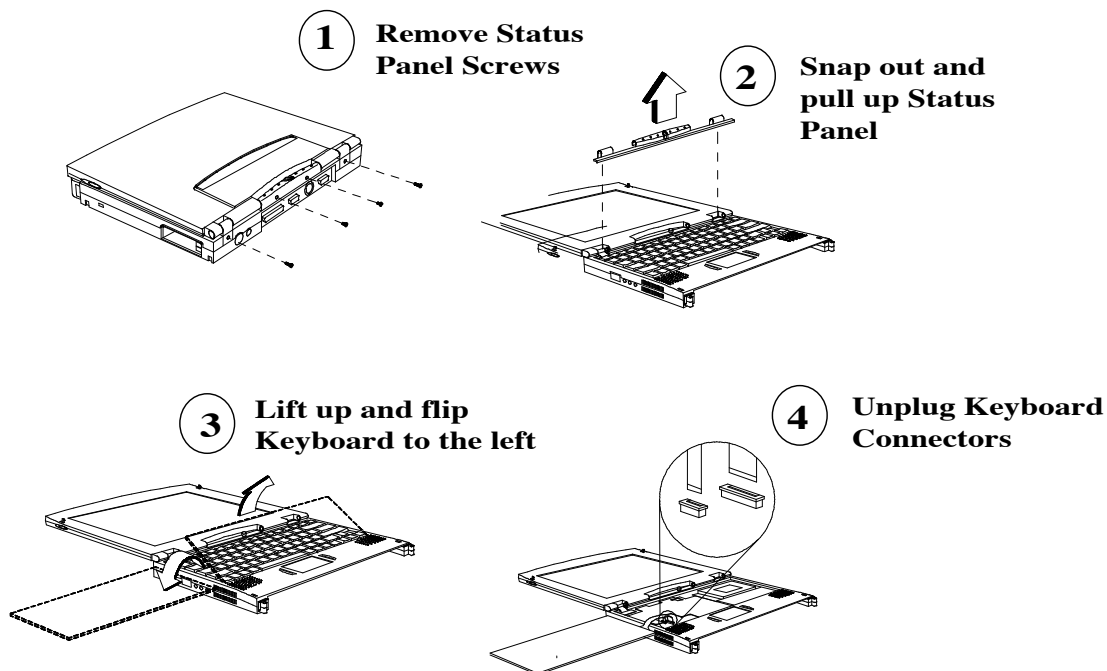

Figure 6-10 Removing the Keyboard Assembly
2. Remove the four screws near the display hinges (rear of the notebook) as shown in Figure 6-10.
3. Snap out and pull up the Status Panel (refer to Figure 6-10).
4. Lift up the Keyboard Assembly to free it from the notebook and then flip the keyboard to the left side of the notebook as shown in Figure 6-10.